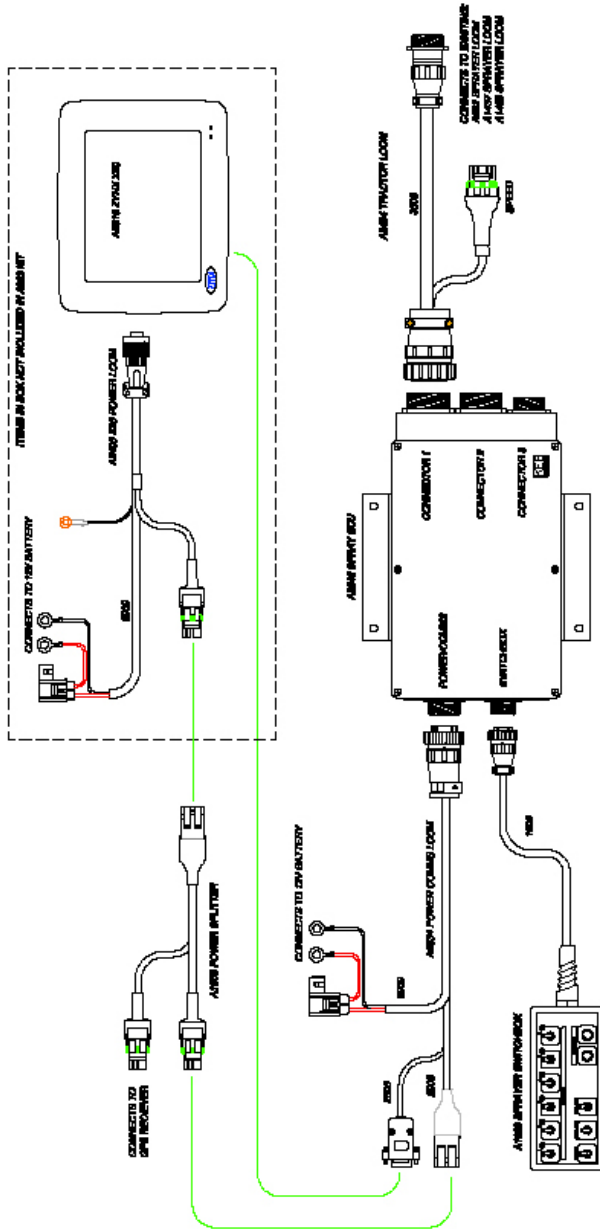

Figure 5-11. General Layout of Spray ECU Connecting to Existing Topcon Precision Agriculture Sprayer Harness
1. Connect the Tractor Harness to Connector 1 on the Spray ECU (Figure 5-11 on page 5-30)